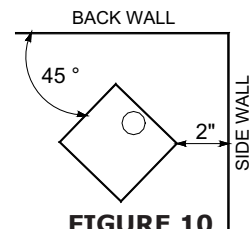

FIGURE 10
2. Clearances to any combustible material surrounding this insert as identified in Figure 10 must be followed. These clearance requirements supersede any pre-existing facing material clearances listed for the factory built fireplace.